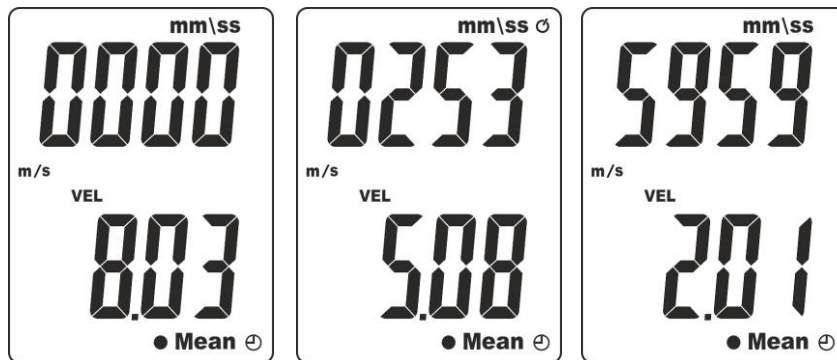

Fig. 9: Average value of speed calculated over time
5. Press and hold (>2s) key **MEAN**. Symbols “Mean” and “⌚” and air speed are shown respectively in the bottom part of the display and on the secondary display, while symbols “0000” and “mm/ss” (timer expressed in minutes/seconds) are shown on the main display (see Fig. 9 – left part).
6. Press key **ENT** to activate the measuring time (range: **1s ÷ 59min, 59sec**) indicated on the main display, while air speed measurement is running (see Fig. 9 – middle, referred to a measuring time of 2min e 53s)
8. Press key **MEAN** to stop measurement. Symbols “Mean” and “⌚” flash on the display and the Average value calculated over time with sample rate of 1s is shown on the secondary display (see Fig. 9 – right side)
9. For measuring time over **20 minutes** (see Fig. 9 – right side) is necessary to disable the Auto Power OFF feature (see § 4.4)